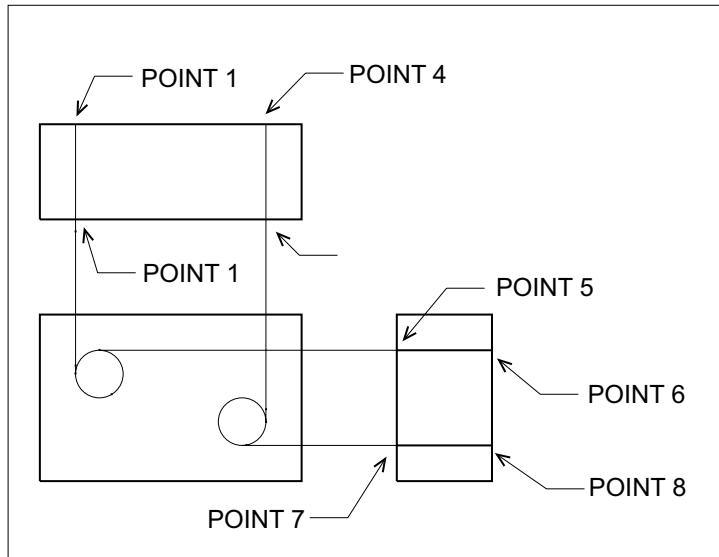

Figure P3–11 Identifying the end points of the hidden lines
Move the pointer toward POINT 2 as shown in Figure P3–11 until AccuSnap snaps to the intersection of the block and construction line, and then click the Data button to accept the Tentative Point.
STEP 5: Draw the other three hidden lines using the same method as step 4 above and Figure P3–12:
The drawing should look like Figure P3–12.